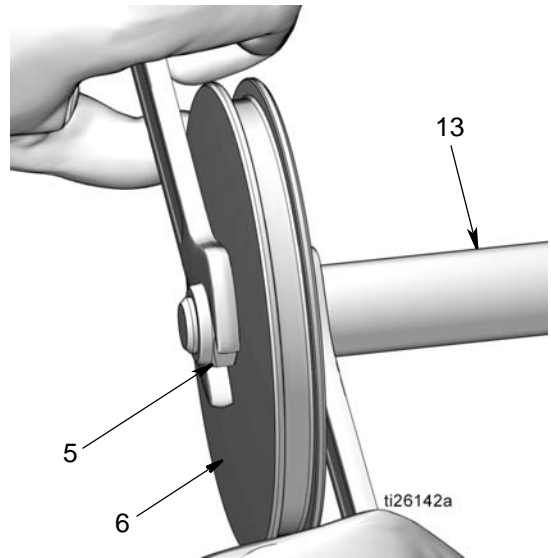

FIG. 49
- d. Install nut (5) over the end of the piston rod (13). Use two wrenches, working in opposite directions to tighten the nut. Secure one open end wrench to flats of piston rod and use the second wrench to tighten the nut (5) as shown in FIG. 49.